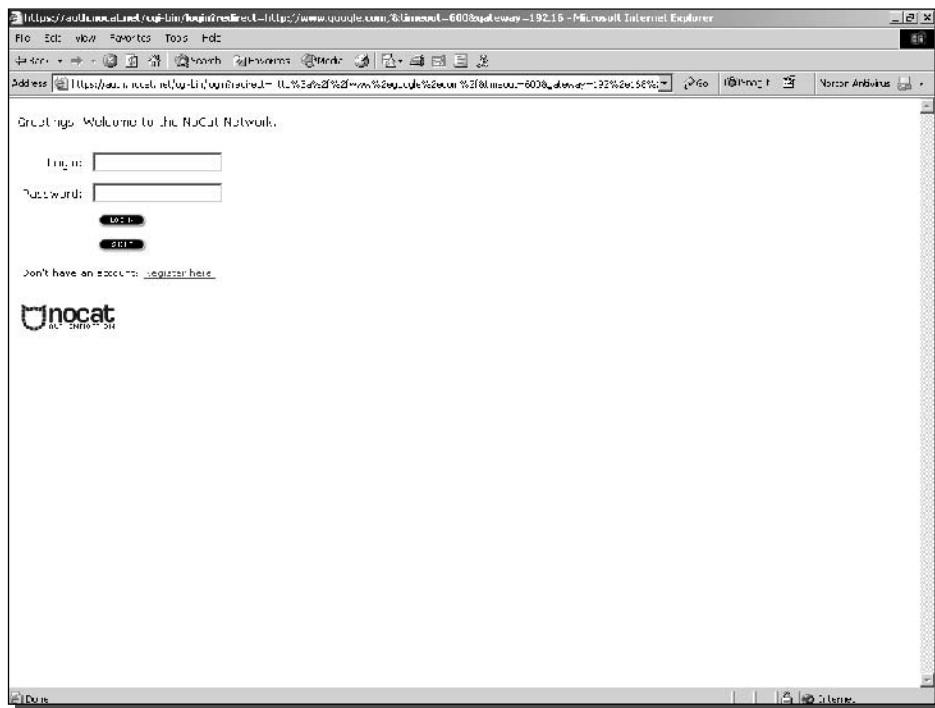

FIGURE 10-6: The NoCat login screen, displayed by the NoCat auth server.
1. Type www.google.com in the browser address bar. You should get the NoCat login screen, as shown in Figure 10-6.
2. On the client, type `www.google.com` in the browser address bar. You should get the NoCat login screen, as shown in Figure 10-6 above.
You should get the NoCat splash screen, as shown in Figure 10-6.